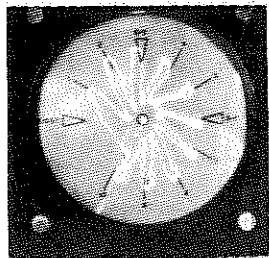

Fig. 14 (Zenith)
3. Slide the three position SCOPE SELECTOR switch on the rear of the PS148 to the VECTOR position. Adjust the receiver color level control until a full pattern is seen on the PS148 screen. Adjust the centering controls on the PS148 so that the bright spot in the center of the pattern is in the center of the screen. Adjust the receiver tint control until the third bar is touching the R-Y mark on the screen. The pattern should look similar to the ones shown in figures 14 to 16 if the receiver is working properly.
90 Degree Demodulation Systems: The standard 90 degree demodulator system has a phase shift of 90 degrees between the R-Y and B-Y signals in the receiver. On the PS148 screen, the R-Y signal will align with the R-Y mark and the B-Y signal will align with the B-Y mark. If the B-Y does not fall within the area of the B-Y mark on the screen, the injection transformer should be adjusted until the B-Y signal is 90 degrees from the R-Y signal and falls within the B-Y mark on the screen. On many of the new color receivers, this is a fixed coil and no adjustment is available. Figure 14 is a 90 degree demodulated signal.
- Connect a bias supply, such as the Sencore BE113, to the ACC test point (Q) and set for 6 volts negative. Connect the PS148 to the receiver as a vectorscope and adjust the 1st amplifier plate coil for the biggest vector display on the PS148 screen. Remove the bias from the ACC test point and adjust the 2nd amplifier coil for straight lines on the vector petals. The lines at this point should be fairly straight, see figure 14. If the lines of the vector petals touch or spread out and are no longer straight, the setting is incorrect. Note, the 2nd amplifier slug should be adjusted to the point where the slug is closest to the chassis. Two points may be found, but the point closest to the chassis is the correct point.